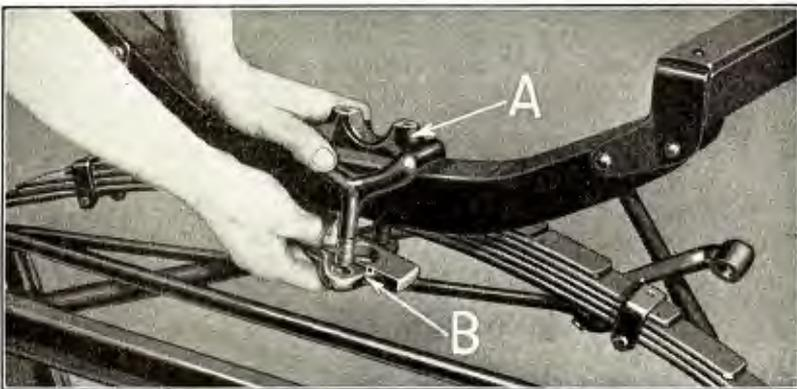

Fig. 64
- 64 Install crankcase front bearing and spring clip assembly**—Position crankcase front bearing (See “A” Fig. 64) on cross member, inserting spring clip bar “B” over ends of spring clip.